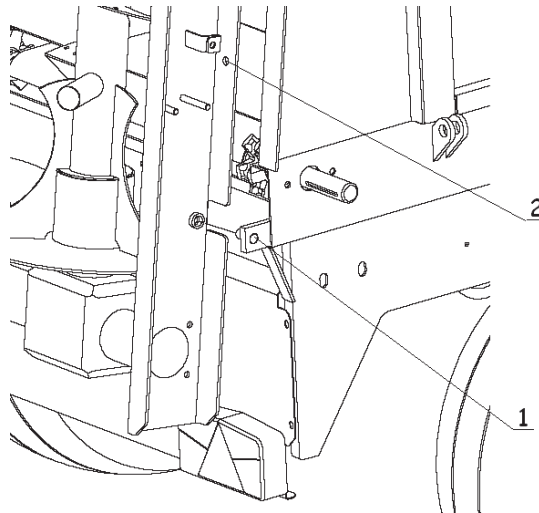

Fig. 5. Adapter mounting
The adapter frame is connected to the spreader chassis with two pins set in the bottom frame grips (see fig. 5 item 1) and fastened to the load body with the bolts (see fig. 5 item 2).